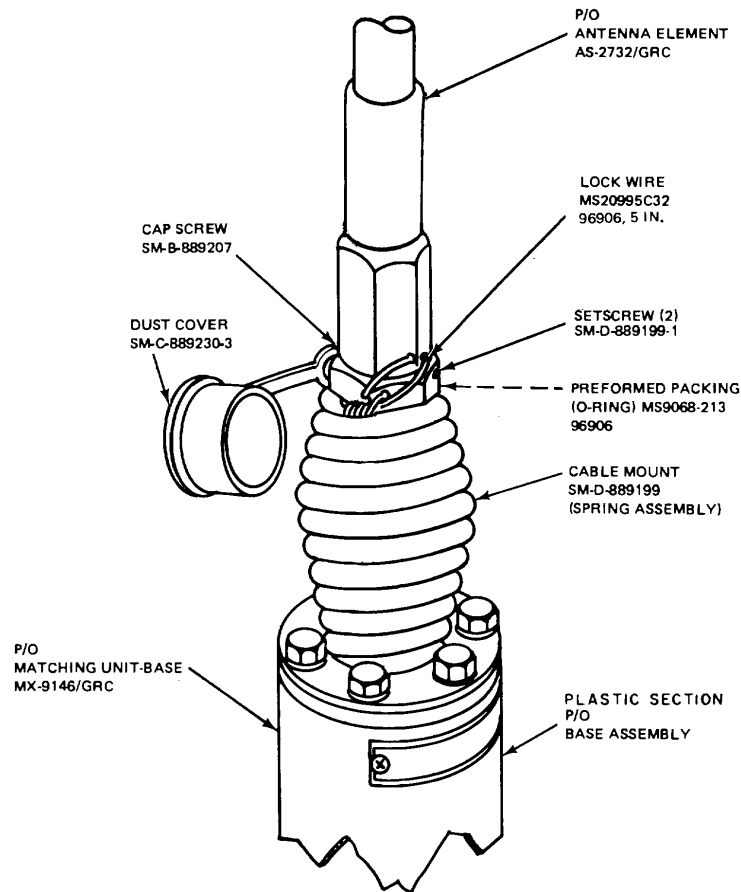

Figure 2-2. Antenna AS-2731/GRC partial view, parts location
a. *Antenna Element AS-2732GRC.* The AS-2732 GRC is a 5 ½-foot whip section assembly with a threaded base. It is attached in a vertical position to the top of the cable mount on Matching Unit-Base NMX-9146 GRC, extending the transmit-receive range capabilities of the associated radio. To prevent the AS-2732 GRC from vibrating loose, a lock wire (fig. 2-2) is attached between the AS-2732 GRC and the MIX-9146 GRC.
(1) Matching Unit-Base MX-9146 GRC usually is attached on the outside of a wheeled vehicle, tank or armored personnel carrier. It consists of a spring assembly, base assembly, matching unit case, and mounting hardware. On the bottom of the MX-9146 GRC, three posts provide physical protection for the
(fig. 2-2, 2-3 and 2-4)
c. Remove the dust cover from threaded end of cable mount assembly. Insure that the contact on top of MX-9146/GRC protrudes fully and two setscrews and a cap screw (fig. 2-2) holding rf assembly contact in place are firmly secured.